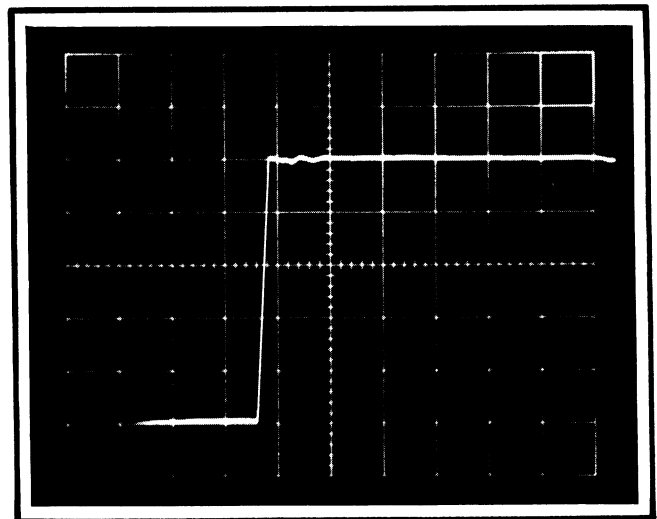

Fig. 4-4. Probe response to a fast-rise pulse input signal (risetime  $\leq 0.25$  ns). Note that aberrations are  $\leq 3\%$  (0.15 div).
- 5) Recheck the waveform with the compensation box cover installed. Perform adjustments as necessary to obtain the correct waveform after the cover is installed. See Fig. 4-4.
5) Recheck the waveform with the compensation box cover installed. Perform adjustments as necessary to obtain the correct waveform after the cover is installed. See Fig. 4-4.